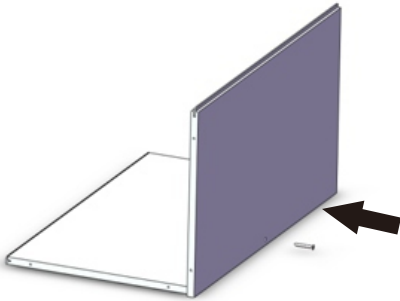

Fig. 1 Installation backboard
The schematic work principle of color assessment cabinet(see Fig. 1 attached)
1. Install the back and bottom boards with screws (Fig. 1)